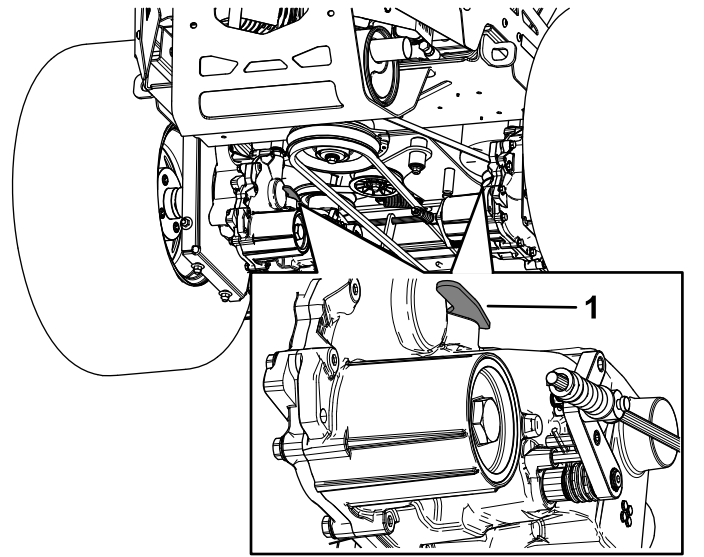

Figure 35
3. To push the machine, move both bypass levers forward and lock them into place (Figure 35).
5. To run the machine, move the bypass levers rearward and lock them into place (Figure 35).